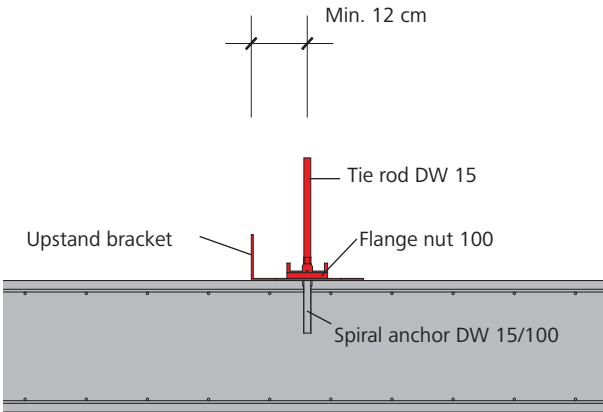

Fig. 17.3
2. When the concrete has sufficiently set and the styropore core has been removed from the spiral anchor, attach the upstand bracket with a DW 15 tie rod and a flange nut 100 to the ground (Fig. 17.3).